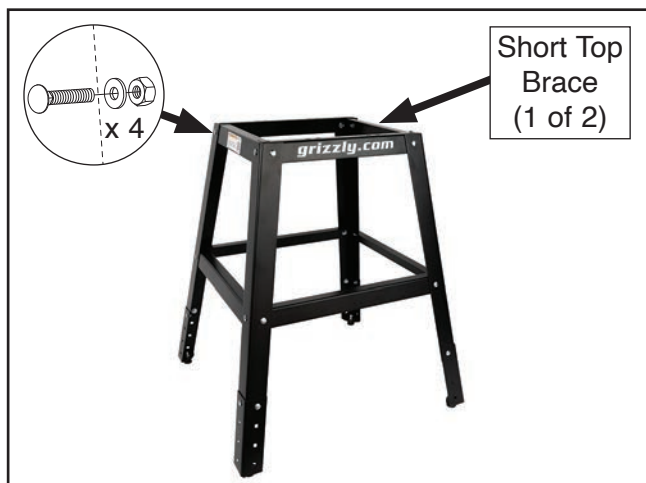

Figure 7. Short top brace attached to stand legs.
7. Attach (2) short top braces to legs with (4) $\frac{5}{16}$ "-18 x $\frac{1}{2}$ " carriage bolts, $\frac{5}{16}$ " flat washers, and $\frac{5}{16}$ "-18 hex nuts, as shown in **Figure 7**.